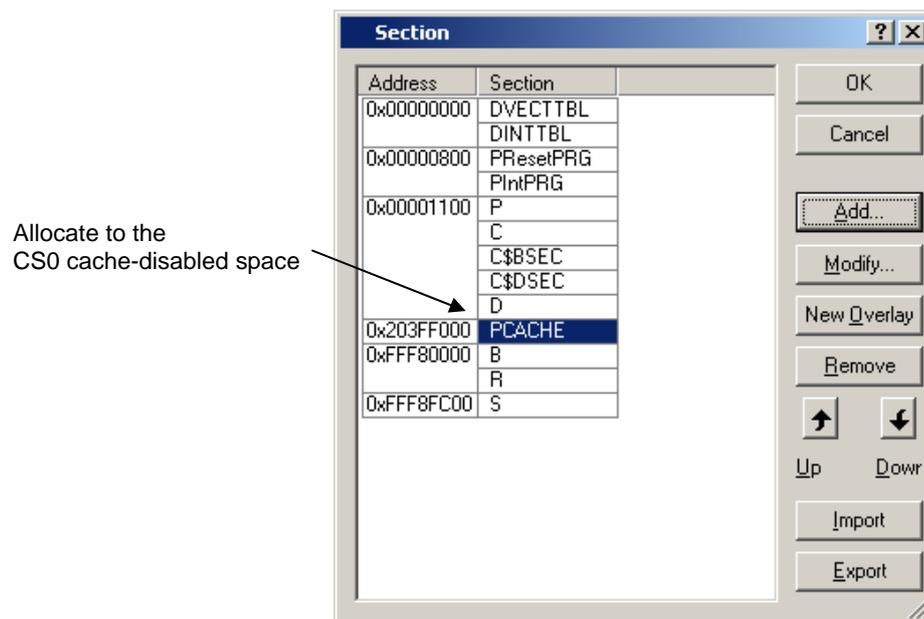

Figure 5.3.16 Section Setting (6/6)
- (6) The section name is added, and the display returns to the [Section] dialog box. Confirm if the section has been set as shown in Figure 5.3.16, and click "OK".